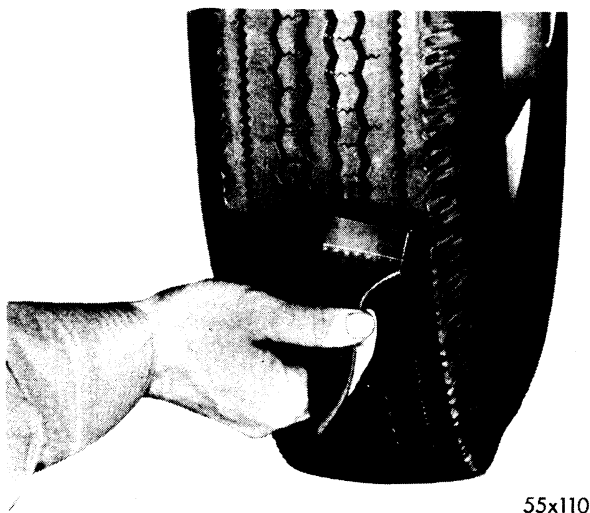
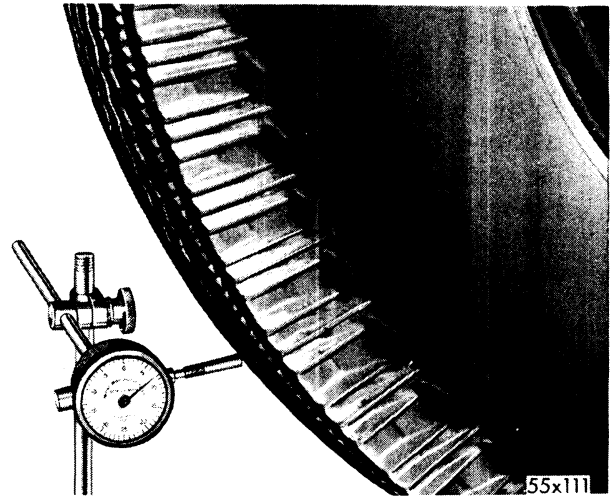

Fig. 22—Coating Tread with Soap Solution
Fig. 23—Measuring Runout with Dial Indicator
there will be no deflection. A dial indicator reading .100 inch may be used. Coat tire tread with soap solution so anvil of dial indicator will have smooth surface to bear against (Fig. 22). Measure radial runout at either of the center road ribs of the tread (Fig. 23). Slowly rotate the tire and note the high and low spots. Mark the highest spot on tire with "H" and the lowest spot with "L". Using the lowest spot (L) as a base, rotate tire to highest spot (H), marking the total reading at highest spot (H) in thousandths of an inch, such as .045 inch.
- (4) If there are more than one low spot and one high spot on the tire, mark them where they occur in thousandths of an inch. These